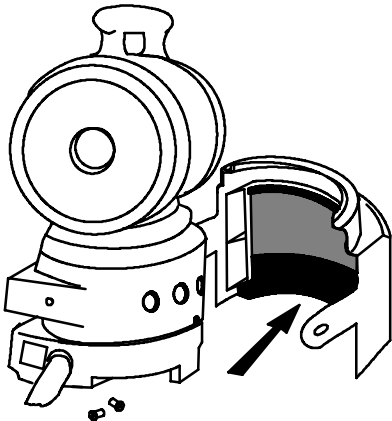

FIG. 25
6. For the TrailBlazer Lite, once a month (or as necessary) take off the shroud assembly by removing the two screws (Figure 25).